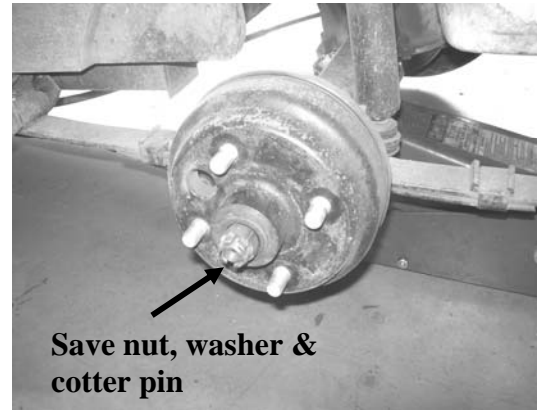

Fig. 1 Original drum brake
1. Carefully remove cotter key from the large nut in the center of the drum. Remove Axle nut and washer. Remove old brake drum. Save nut, washer and cotter pin. (see Fig. 1)